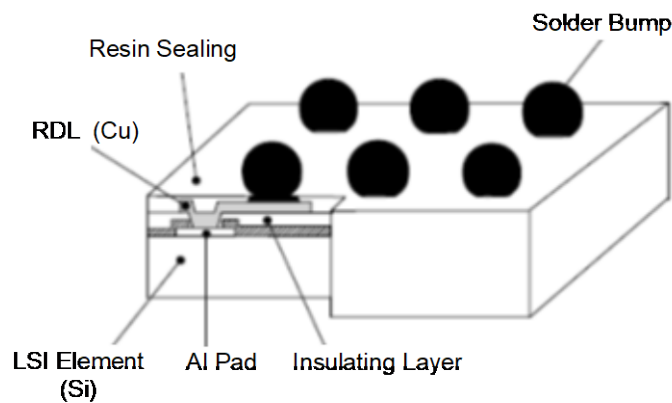

Figure 1 Cross Section
**Figure 1** shows the structure of WLP manufactured by ABLIC Inc. A redistribution layer (RDL) (Cu) pattern is formed from the Al pad of the IC, and solder bumps are placed on top of it. Because the IC surface is covered by a resin sealing layer, it also has no problems in terms of reliability.